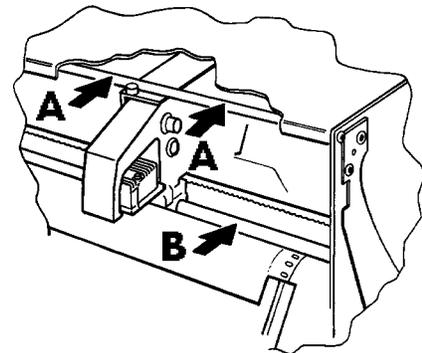

Figure 2.3 Reaction Bar location
- b. Every six months, the print head reaction bar (A in figure 2.3) is cleaned of paper dust and then smeared with a small amount of a light lubricant such as WD40, applied using a lint-free cloth.
- c. Every six months, the reaction bar (A in figure 2.3) is rotated a few degrees.
On no account should the print head guide bar (B in figure 2.3) be lubricated, as this will damage the 'oilite' bearing in the printhead carriage.